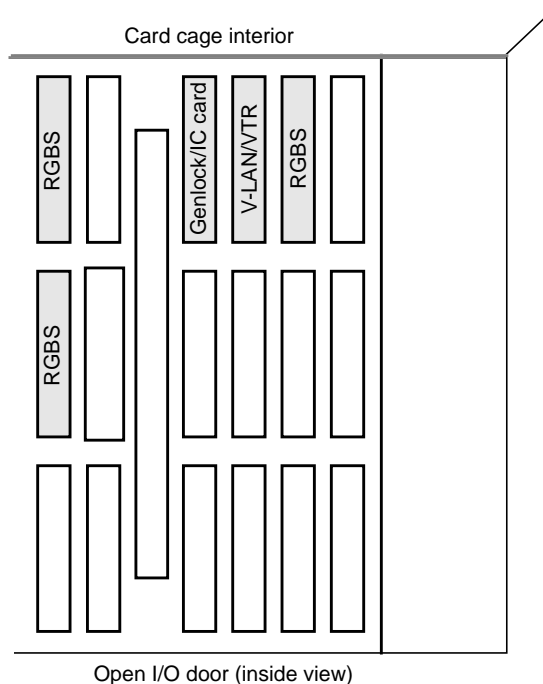

Figure 6 Example placement of plates on open I/O door
1. Remove the slot covers from two vertically adjacent slots and three horizontally adjacent slots on the Onyx I/O door. Figure 6 shows an example placement of the plates on the open Onyx I/O door.
2. Install two of the RGB/sync plates (p/n 040-0642-001) onto the two vertically adjacent slots you have uncovered, as shown in Figure 6.
3. Install the third RGB/sync plate over the rightmost slot of the three horizontally adjacent slots you have uncovered, as shown in Figure 6.